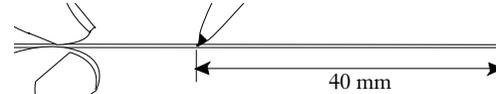

Figure 4-12
4.4-2 Measure and mark 40 mm from the end of the buffered fiber (Figure 4-12).